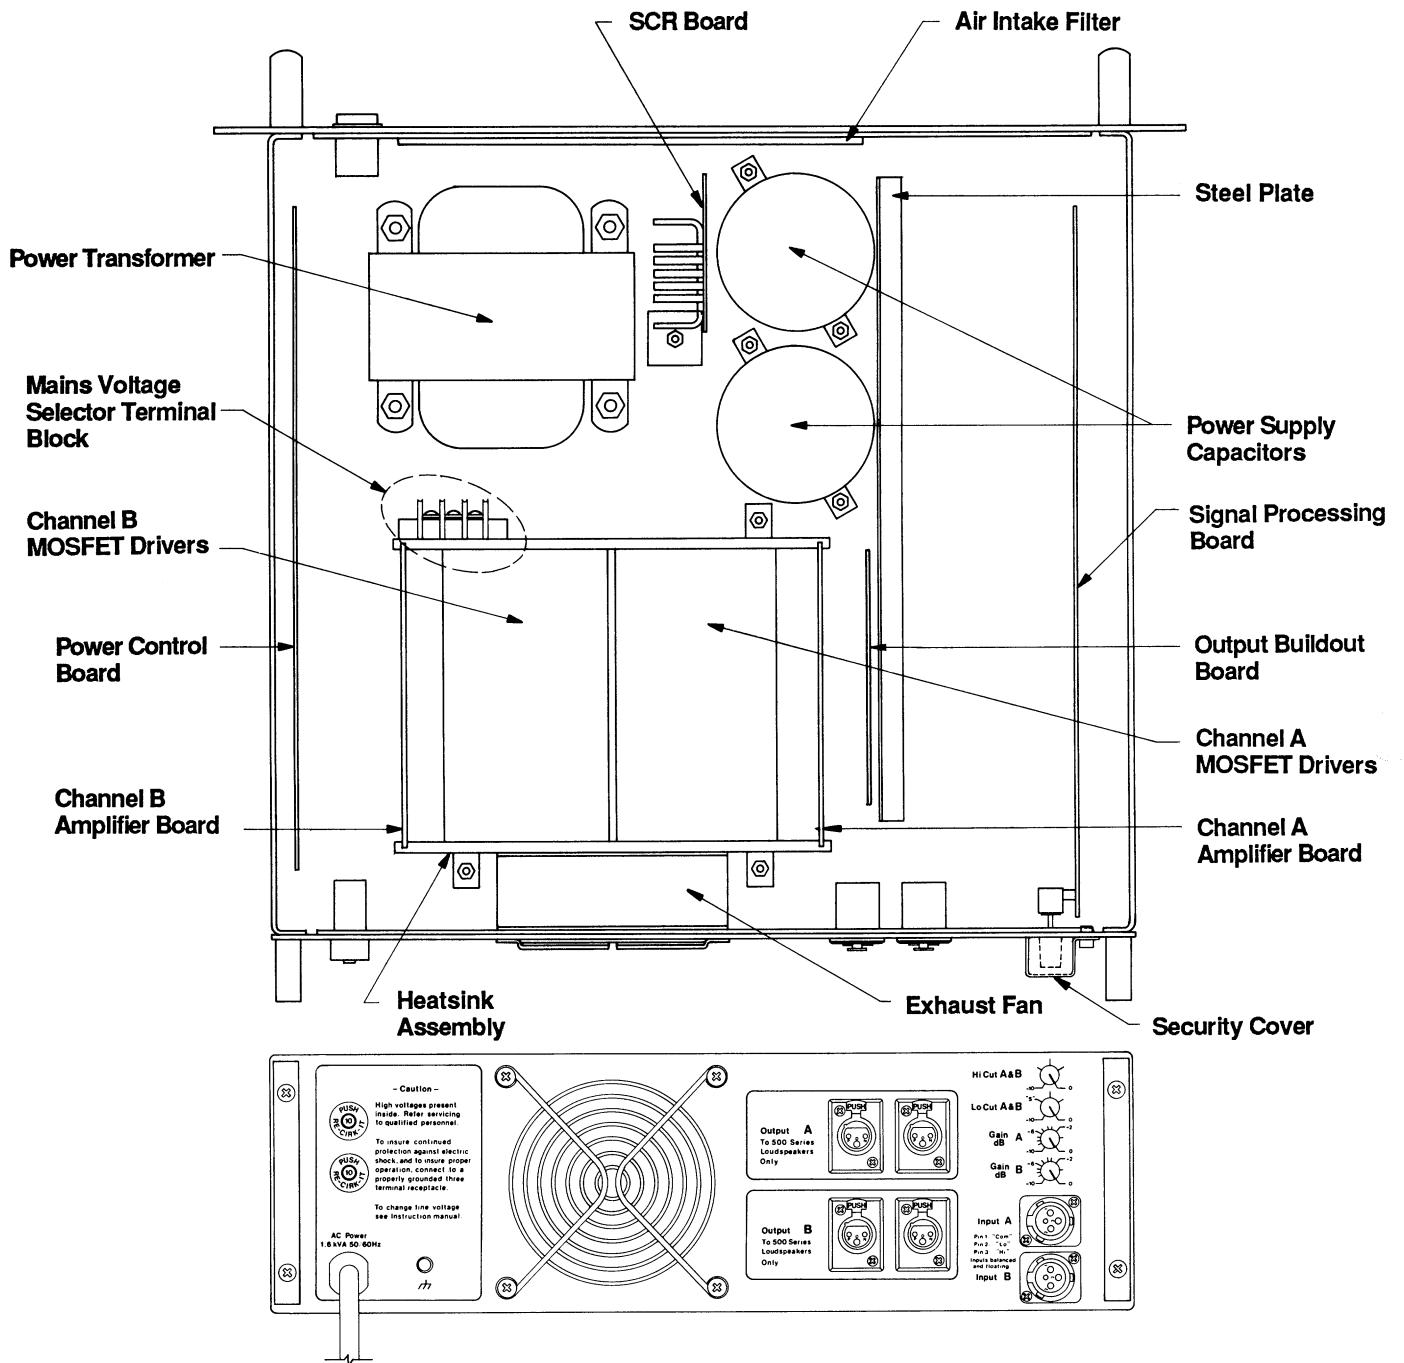

Figure 3-15 500 Amplifier Interior Plan
- 3) Lift the amplifier cover off and identify the voltage selector terminal block (see figure 3-15, overleaf).